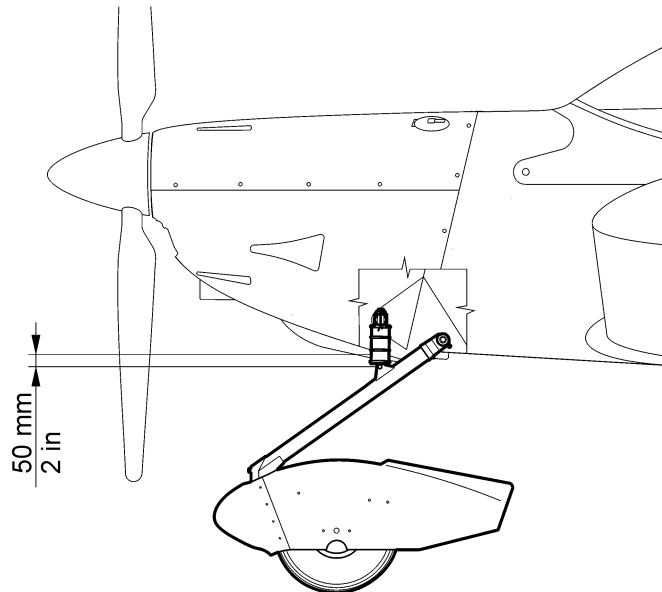

Fig. 8-13: Check of nose landing gear shock absorber
- (b) Measure value of absorber and nose landing gear compression according to Fig. 8-13.